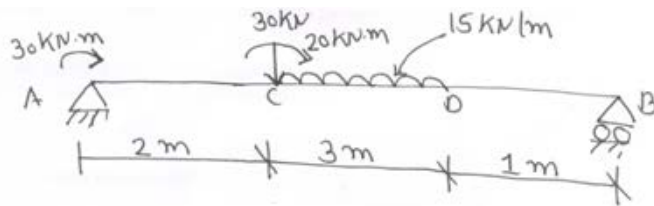

Figure 4 Que 5 (a) or
- Q 5 (a) Draw the shear force and bending moment diagrams for the beam as shown in figure 4. 07